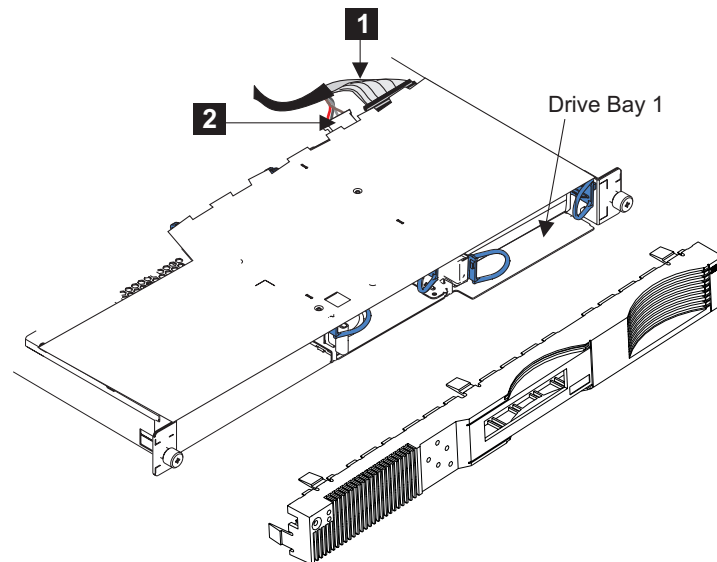

Figure 164. SAN Volume Controller 2145-4F2 disk drive
4. Disconnect the SCSI signal connector **1** and the power connector **2** from the back of the disk drive, as shown in Figure 164, and then remove the cable.